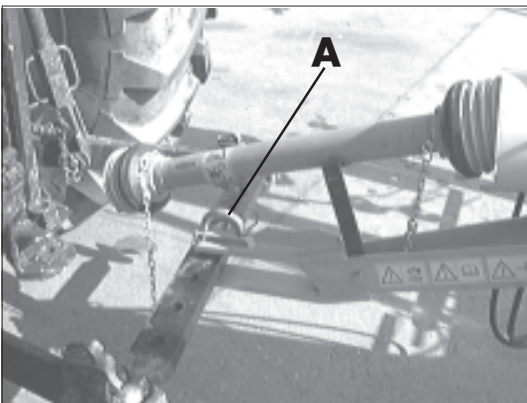

Fig. 3-2
- Attach the Rotary Tedder to the tractor with bolt "A" and secure it with spring pin (fig. 3-2).